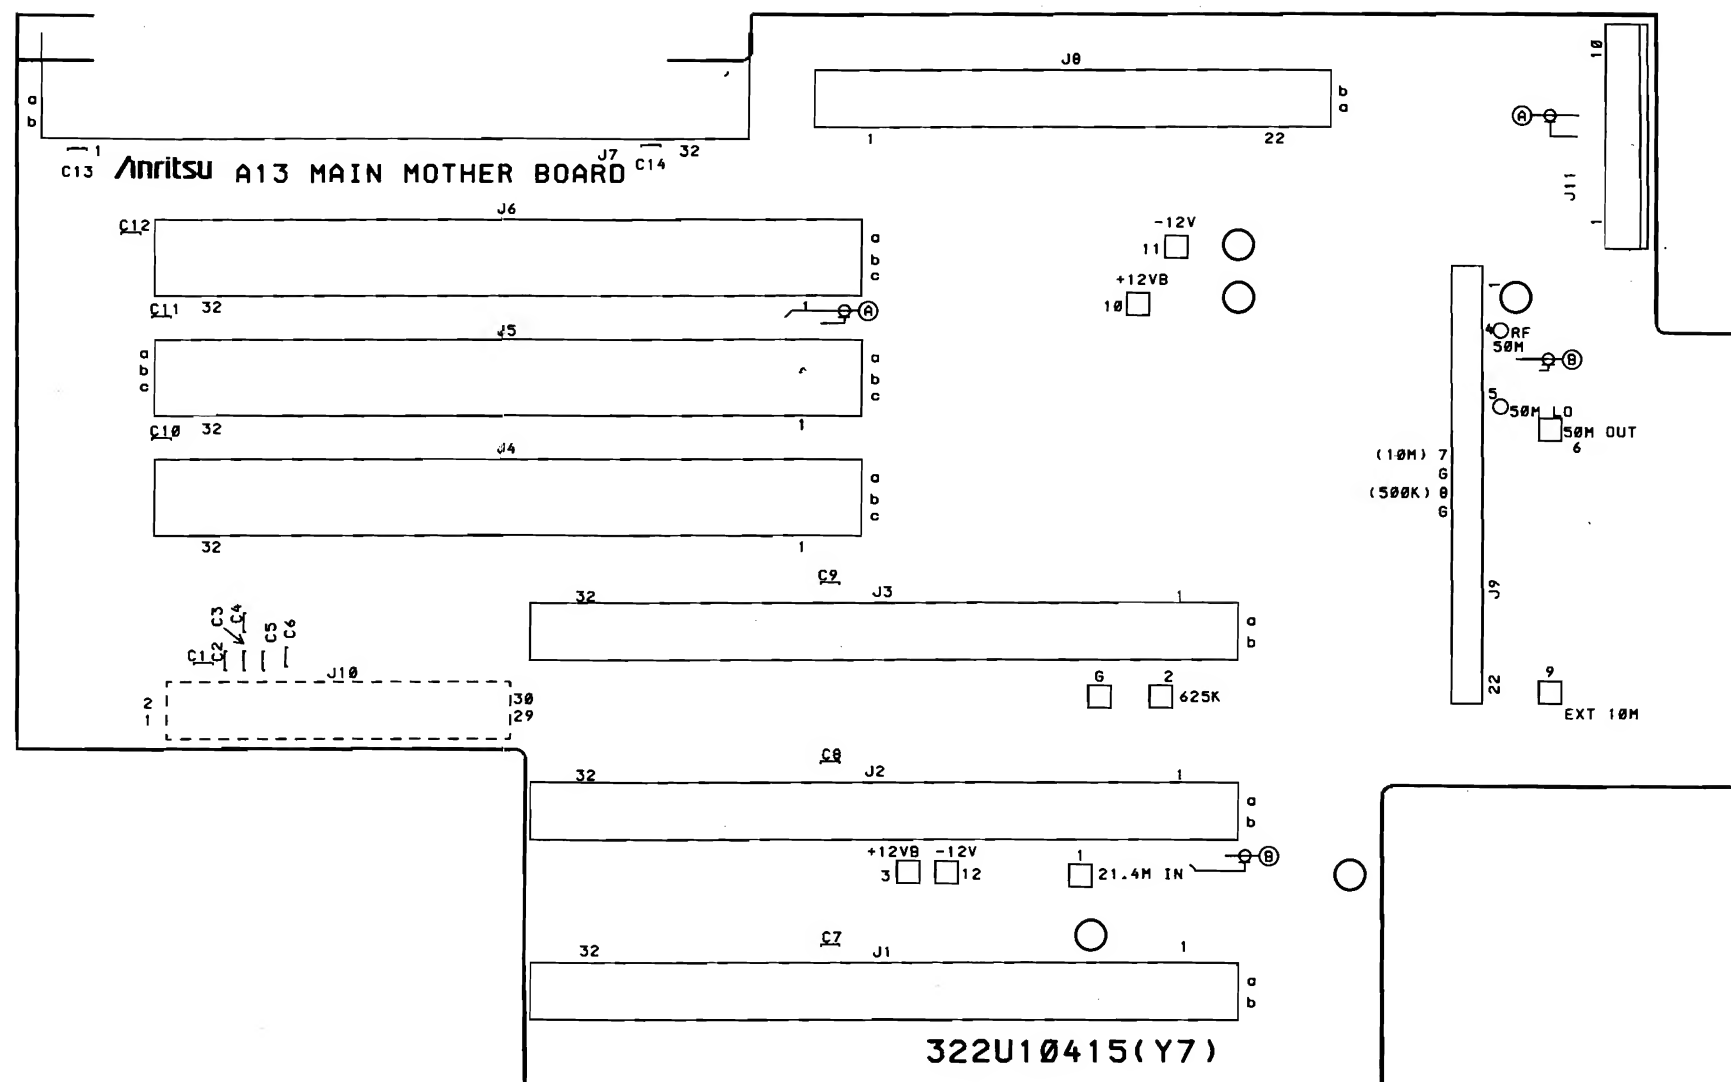

Fig. 3-60 A13 MAIN MOTHERBOARD
1. A13 MAIN MOTHERBOARD (Fig. 3-60, **24**)